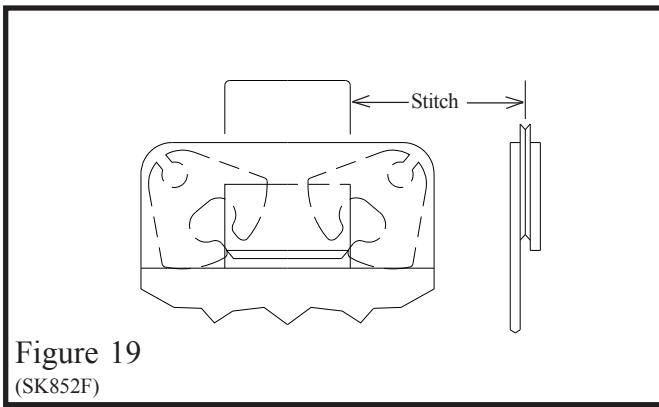

Figure 19
C. Clincher (Figure 19)
The proper alignment of the clincher under the formers is one of the most critical adjustments on the stitcher. Therefore, extreme care should be taken to align the clincher so that both legs of the stitch strike the clincher at the same time with equal spacing from the outside edges of the grooves (See Figure 19). Also, the clincher must be aligned with the bender bar grooves of the head from front to rear so that the legs enter the clincher at the widest section of the clincher grooves.